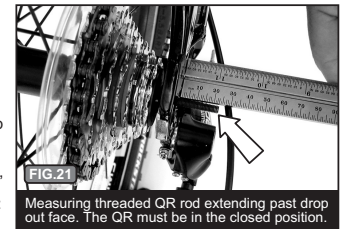

FIG. 21
**C)** Check for a minimum of 3/8 inch (10mm) and maximum 3/4 inch (19mm) of threaded rod extending past the dropout face, Fig. 21. **IMPORTANT:** If the amount of rod extending past the dropout face is less than 10mm, you will need a longer quick release. Please consult the BOB Quick Release Model table at the end of this manual to find the correct QR for your bike.